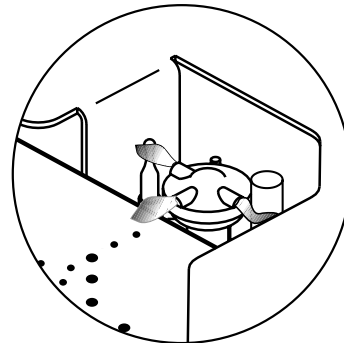

Figure 8.5. Use caution in placing the logs to ensure that the pilot carry-over ports are not obstructed.
- PILOT FLAME:** You can monitor the pilot flame behind the burner in the cut-out under the rear log. See fig. 8.5, pg. 25. The pilot flame should be steady - not lifting or floating. The flame should be blue in color around the pilot hood, with traces of yellow toward the outer edges.